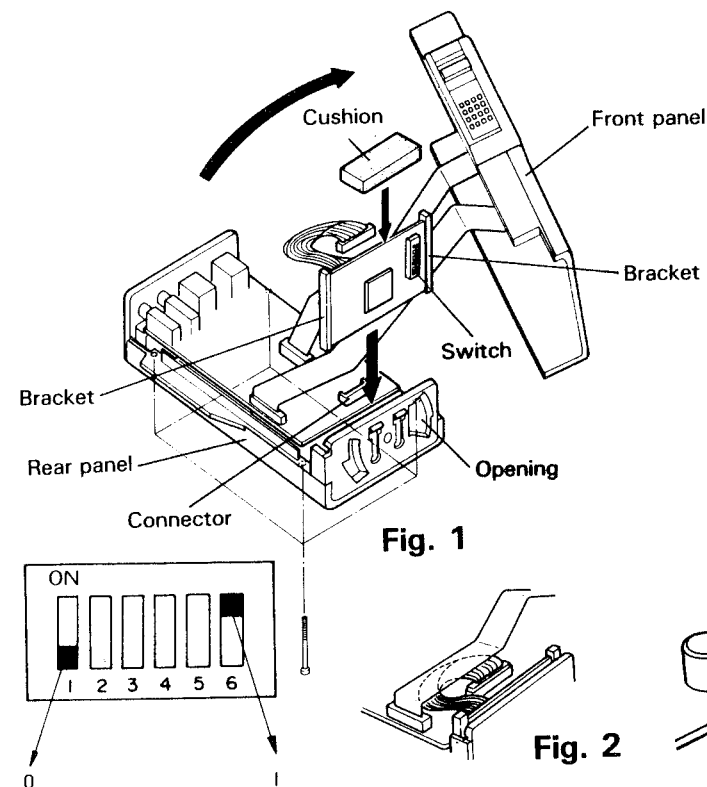

Fig. 1
3. Install the tone squelch unit between the bottom of the set and the main circuit board as Fig. 1. The TSU-3 should be placed so that the DIP switch is visible thru the opening in the bottom of the case.